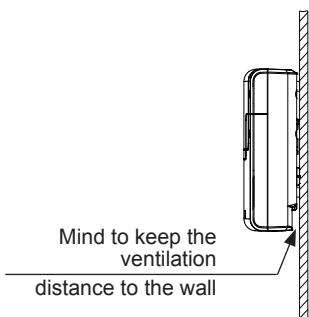

Fig. 1
1. Remove the bottom cover of the power switchgear. To do so, completely remove the 3 screws and pull the bottom housing cover first down, then forward (Fig. 1).